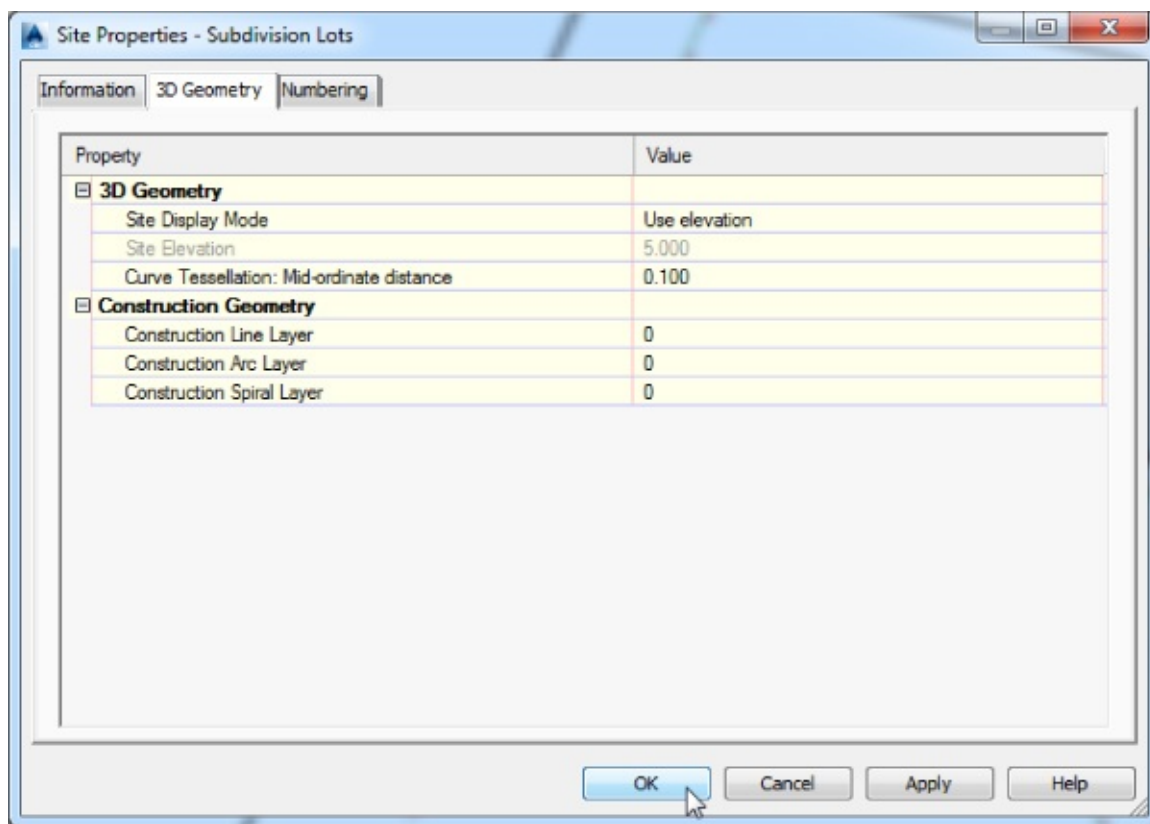

Figure 5.8 Confirm the settings on the 3D Geometry tab.
5. Confirm that the settings on the 3D Geometry tab match what is shown in Figure 5.8.